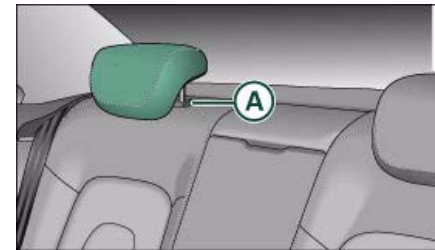

Fig. 77 Rear seats: Head restraint
- Press the button **(A)** ⇒ page 74, fig. 77 and push the head restraint downwards.